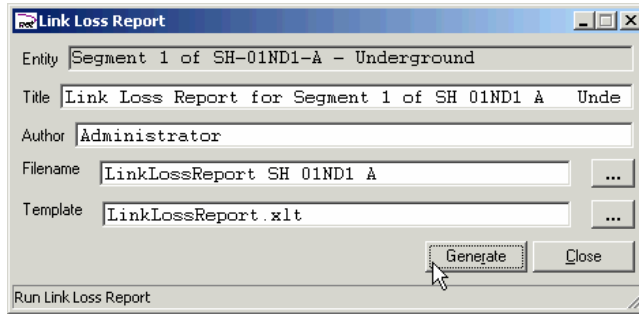

Figure 146 – Fiber Link Loss Report creation panel.
3. Click the Generate button in Figure 146. This will create a Microsoft Excel spreadsheet with loss information, similar to that shown below: